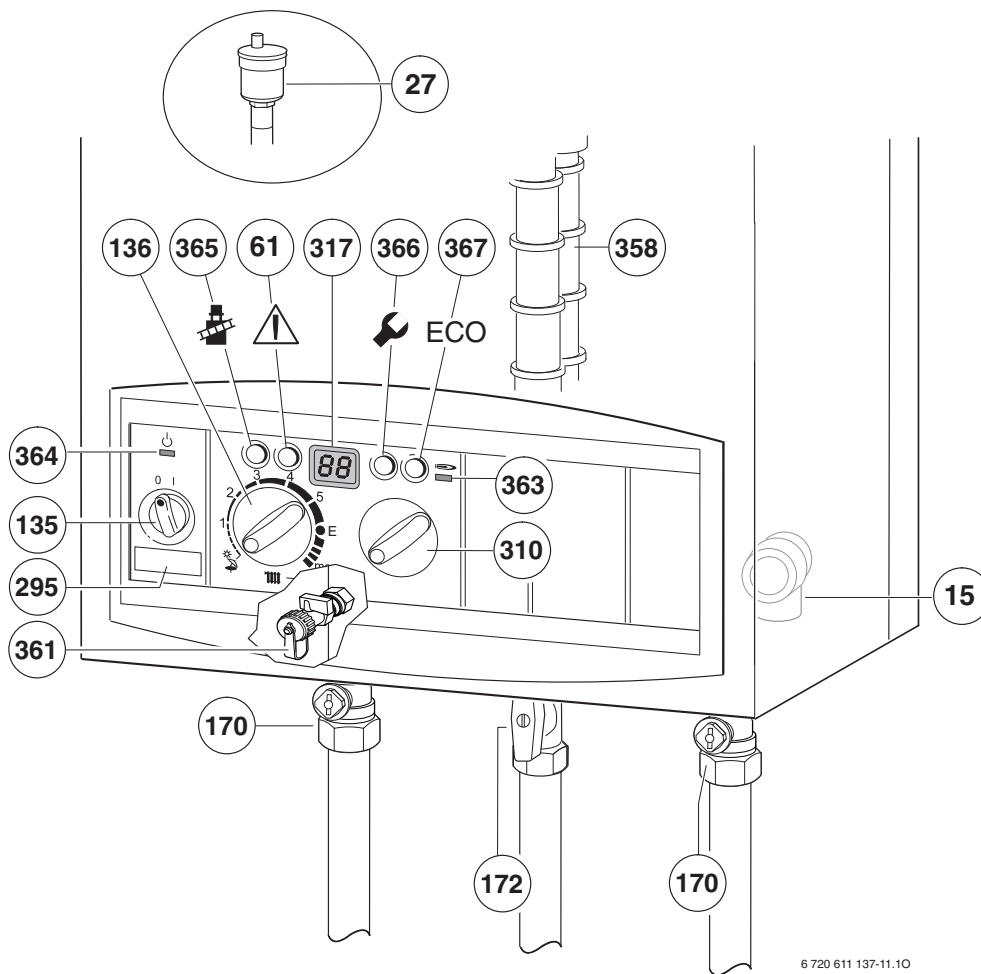

Fig. 32
- ▶ Unscrew the condensation trap (358) and pull out, fill with approx. 1/4 l of water and refit. Refer to fig. 32.
- ▶ Turn on service valves (170), fill central heating system.
- ▶ Turn on gas cock (172). Refer to fig. 32.